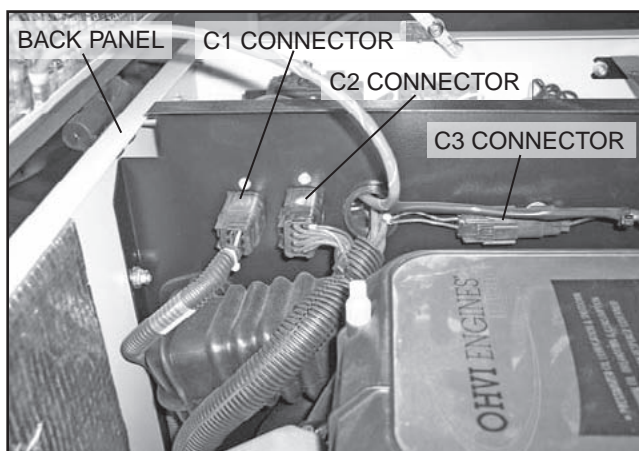

Figure 3. C2 Connector Location
3. Disconnect C2 Connector from the control panel (see Figure 3).
3. Disconnect C2 Connector from the side of the control panel (see Figure 3).